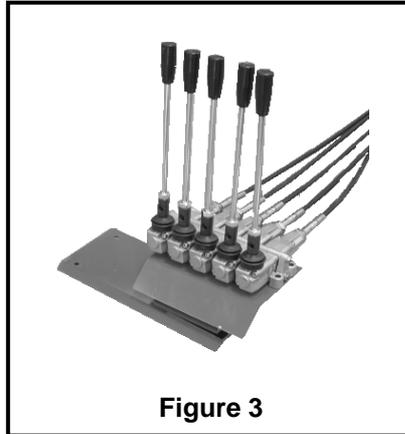

Figure 3
1. The control levers for the valve block are mounted on a detachable bracket that can be located inside the tractor cab (Figure 3)